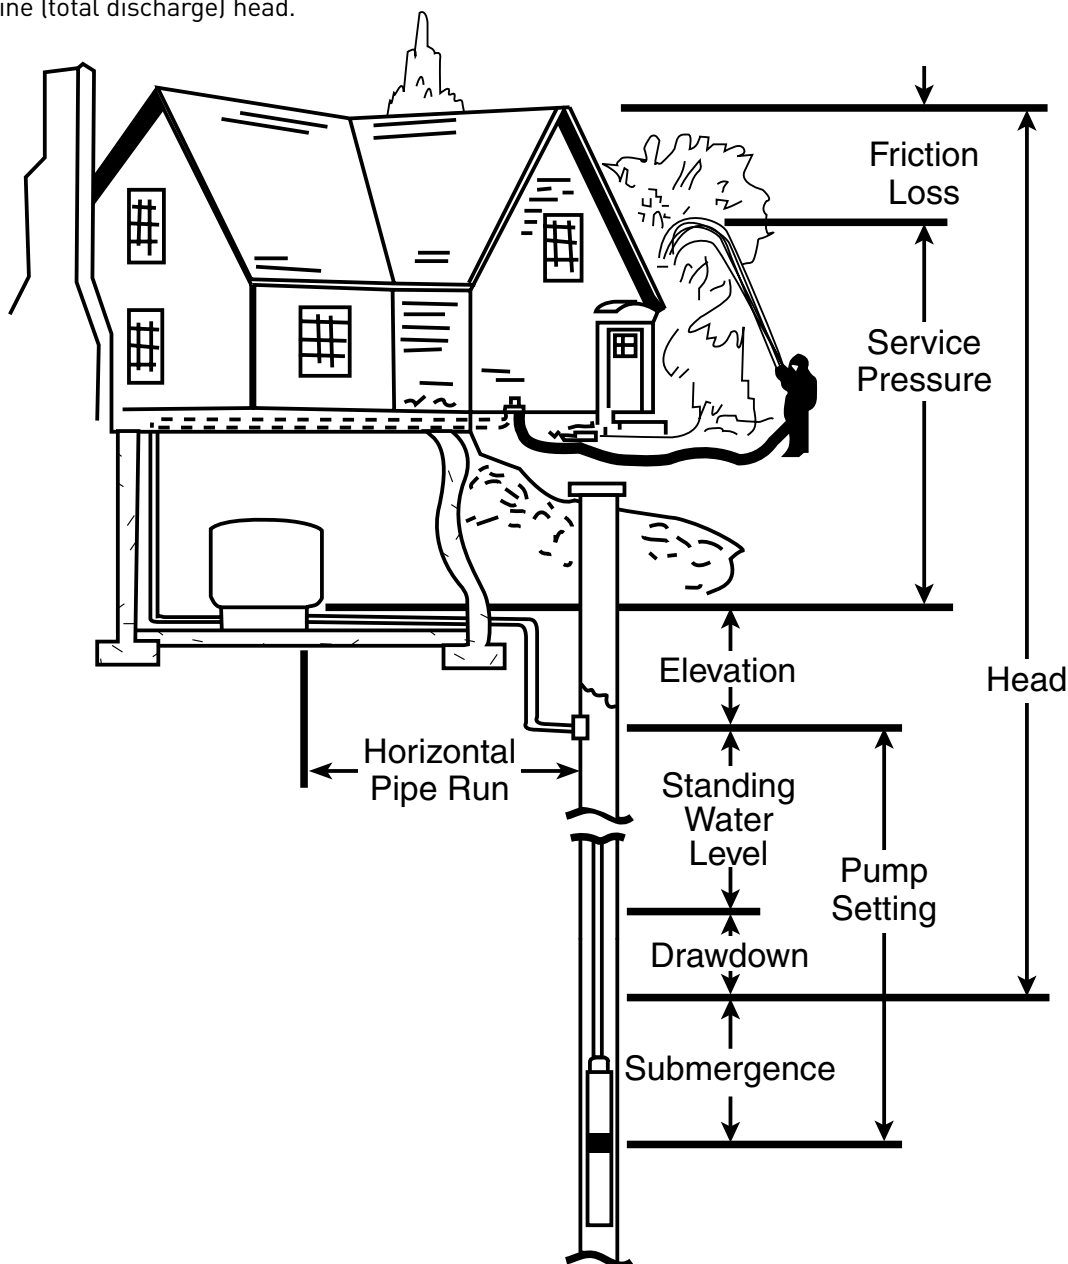

Figure 12-1: Common Pump Terminology
- 2. What is the submergence?** The vertical distance in feet from the pump to the water level while the pump is operating (see Figure 12-1). If the pump is installed away from the well and is on higher ground, this elevation must also be included. This must not be confused with the standing water level.